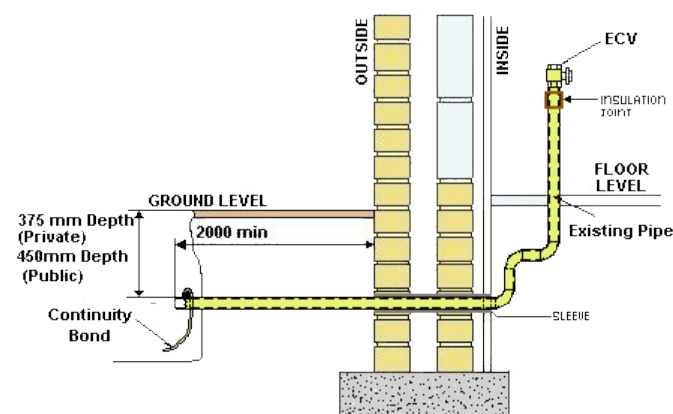

Figure 41 - Cut off service for Serviflex technique
7. Allow enough room to enable the service disconnection cut out and removal of a section of the metallic pipe. (Figure 41)